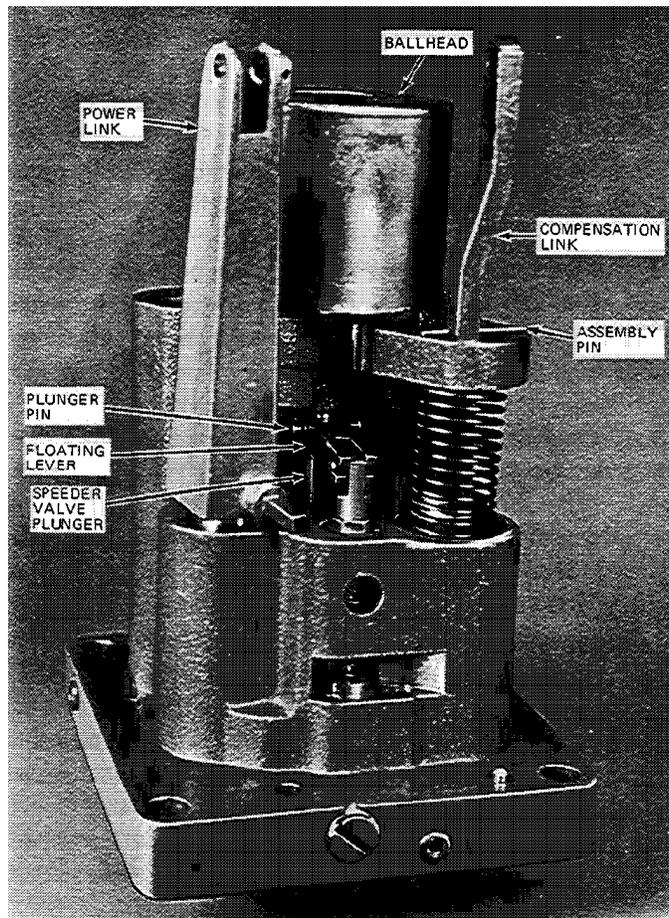

Figure 5-2. Controlet and Base Assembly
1. Remove the cotter pin from the inside end of speeder valve plunger pin (305). See Figure 5-2.
1. Pull compensation link (339) upward and insert a 1/8-inch diameter straight pin or rod through the assembly hole in the center of the link to retain large compensation piston (337) in its bore. See Figure 5-2.
1. Remove speeder valve plunger (332) and bushing (333) from controlet (377), if not previously accomplished.
2. Remove power link (303) and power piston (334).
3. Remove the pin or rod previously inserted in compensation link (339) (Figure 5-2) and remove the link together with large compensation piston (337) and piston spring (335).
4. Remove small compensation piston nut (347), jam nut (348), collar (349), springs (350), and piston (351). Use floating lever (306) as a wrench for holding the piston nut.
5. Remove gear plate (323) and gear (325).
6. Remove cotter pin (340), ballhead drive gear (341), and laminated-spring drive (342 through 346).
7. Using a tube or rod of suitable diameter and an arbor press, depress washers (356) to compress accumulator springs (355) while removing upper retaining rings (353). Allow the springs to expand at a controlled rate until all tension is relieved and then remove washers, springs, and pistons (354).